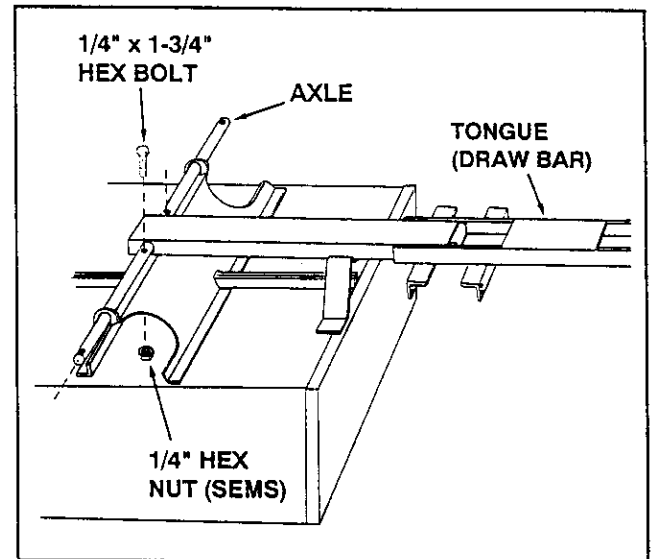

FIGURE 11
- Position the tongue on the bottom of the cart as shown in figure 11. Assemble the axle through the wheel support and the tongue. Fasten the axle to the wheel support using two 1/4" x 1-3/4" hex bolts and 1/4" hex nuts (SEMS). Tighten.